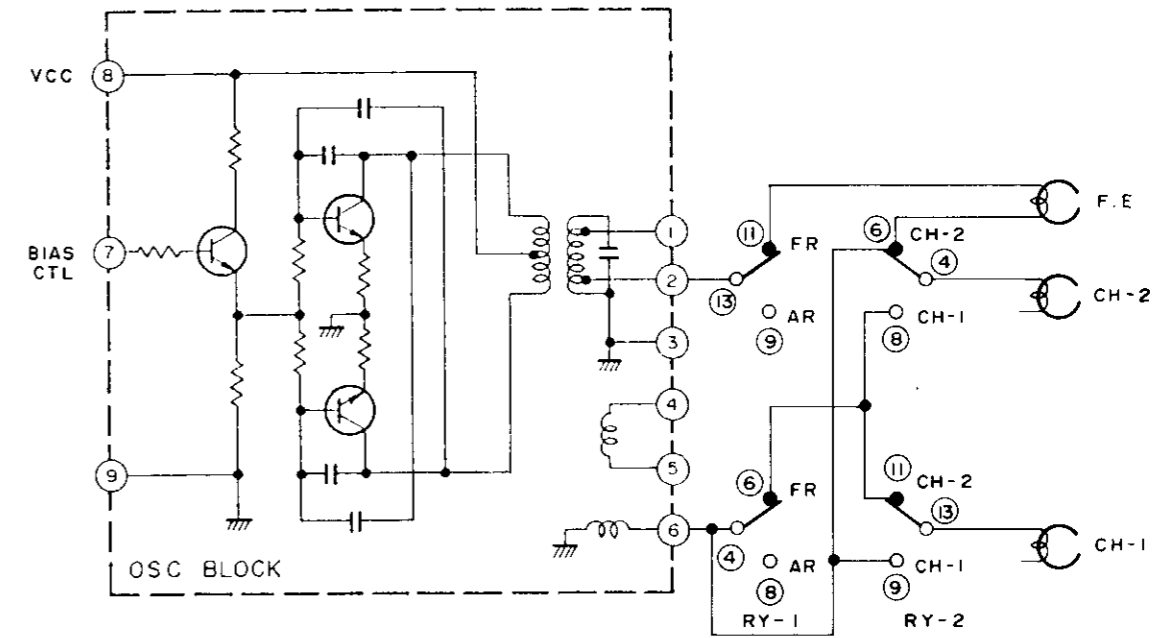

Fig. 3-82 REC mode
1. The operation of the circuit is shown in Figures 3-82 and 3-83, respectively for the Recording mode and the Audio Dubbing mode.